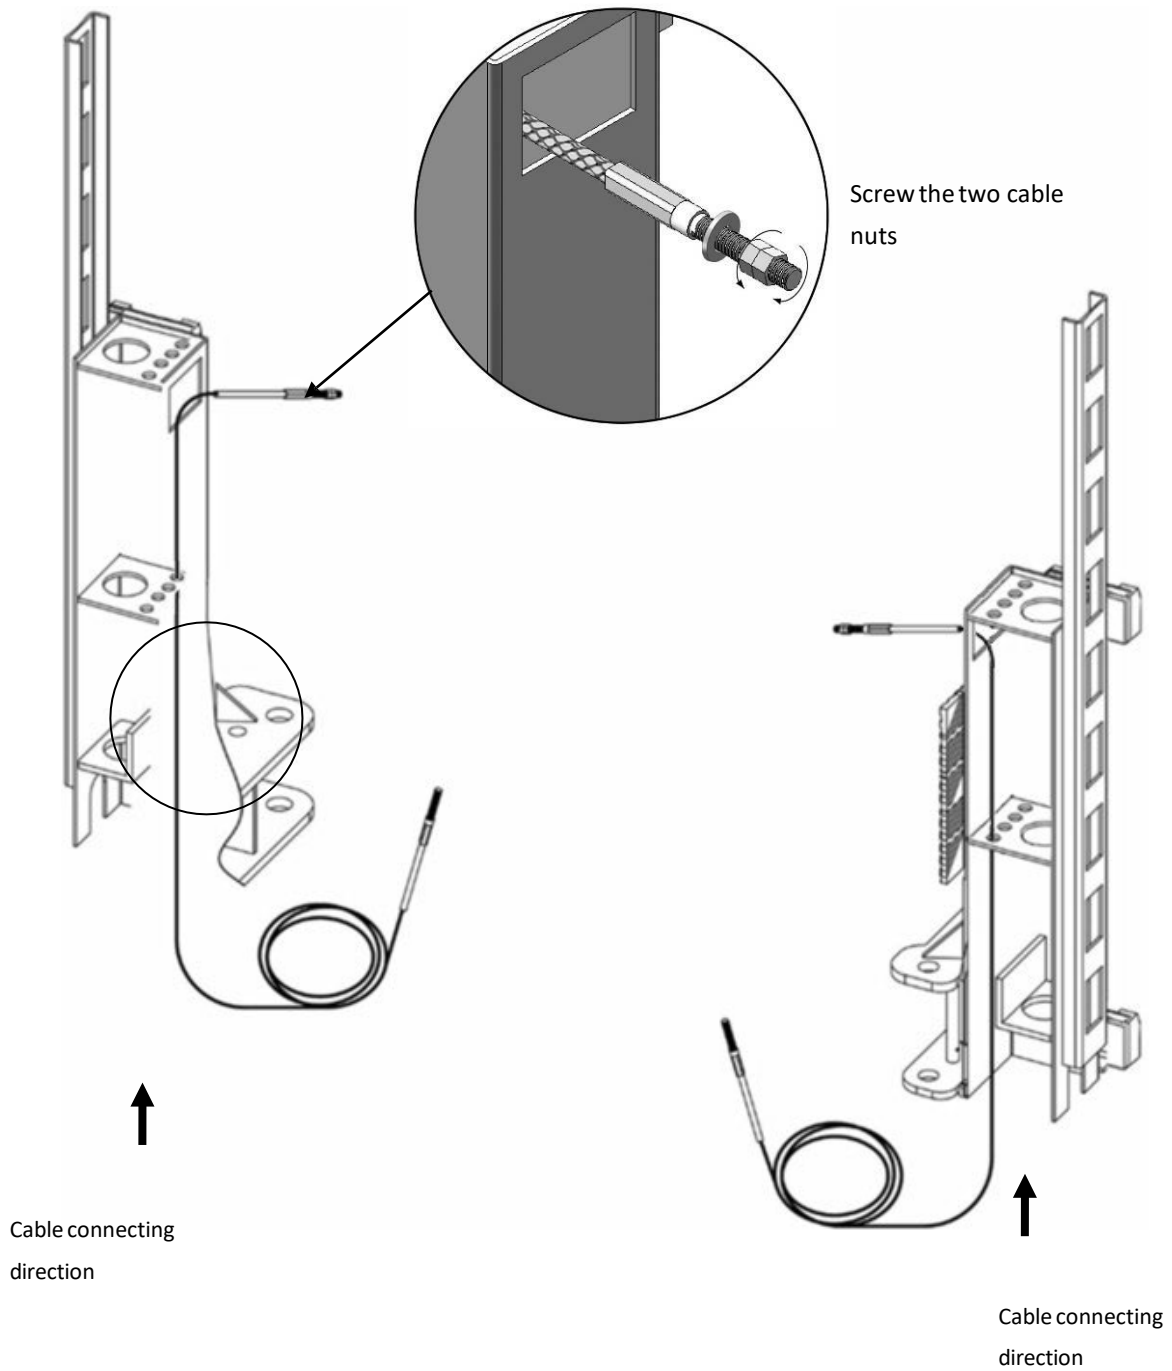

Fig. 27
- 1.1 Remove carriages' plastic cover, pass cable through from the bottom of the carriages and be pull through the openings of the carriages, then screw on/adjust the two cable nuts (See Fig. 27).